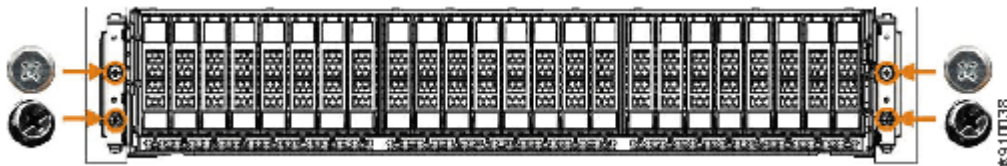

Figure 72. Four screws at the front of the enclosure
6. Unscrew the four M5 screws that secure the left and right end caps of the control enclosure to the rack, as shown in Figure 72 on page 114.